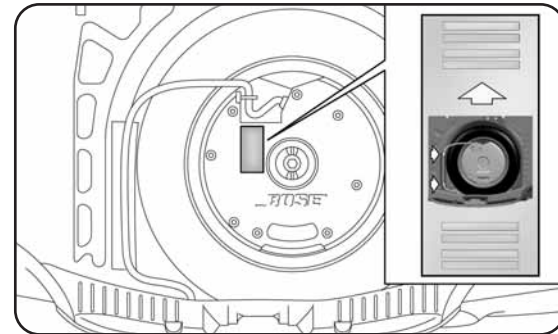

fig. 9
- reposition the container and place the Subwoofer on top of it, taking care to position it according to the instructions on the container (fig. 9) so that the arrow on the spacer is pointing in the direction of travel;